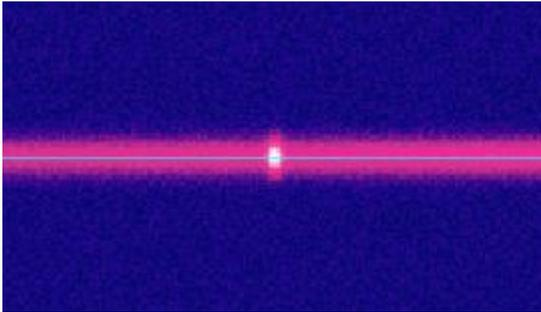

Fig. 10-16. Central line defined
- b. Place the mouse pointer in the line of the image where the signal is maximum and click the primary mouse button. This results in highlighting the selected line (Fig. 10-16) and in displaying its number in the **Center** input field of the Toolbar.